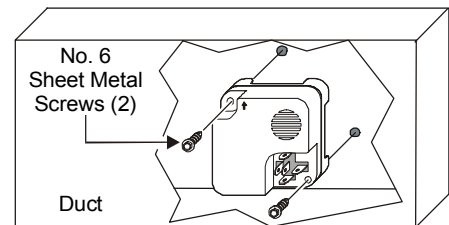

Figure 1: HE-6700 Mounting
3. Attach the sensor to the duct using a 1/4 in. nut driver and two No. 6 sheet metal screws (not provided) as shown in Figure 1.